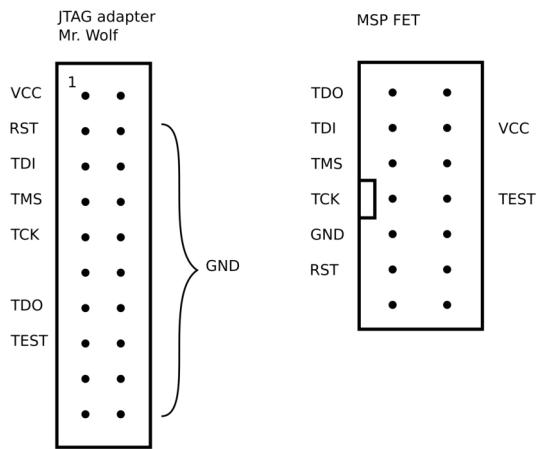

Figure 2.3: Connection between the MSP JTAG adapter and the MSP-FET
1. Connect the MSP FET programmer to the US probe using the 8-pin Molex connector according to Figure 2.3